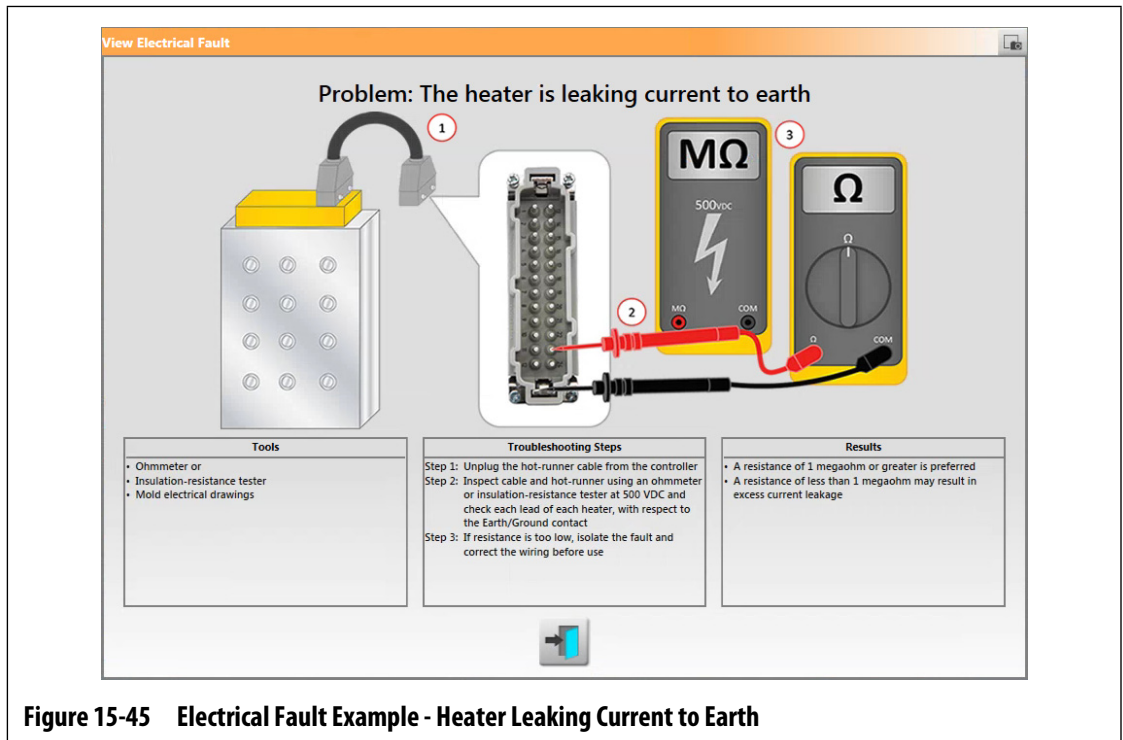

Figure 15-45 Electrical Fault Example - Heater Leaking Current to Earth
- View Electrical Fault - Touch this button to see a picture to help troubleshoot the failure. It also shows a list of tools to use, procedure steps, and the results you should see. The View Electrical Fault button is shown in Figure 15-44. Refer to Figure 15-45 for an example of the troubleshooting procedure window for a “Heat leaking current to earth” failure.